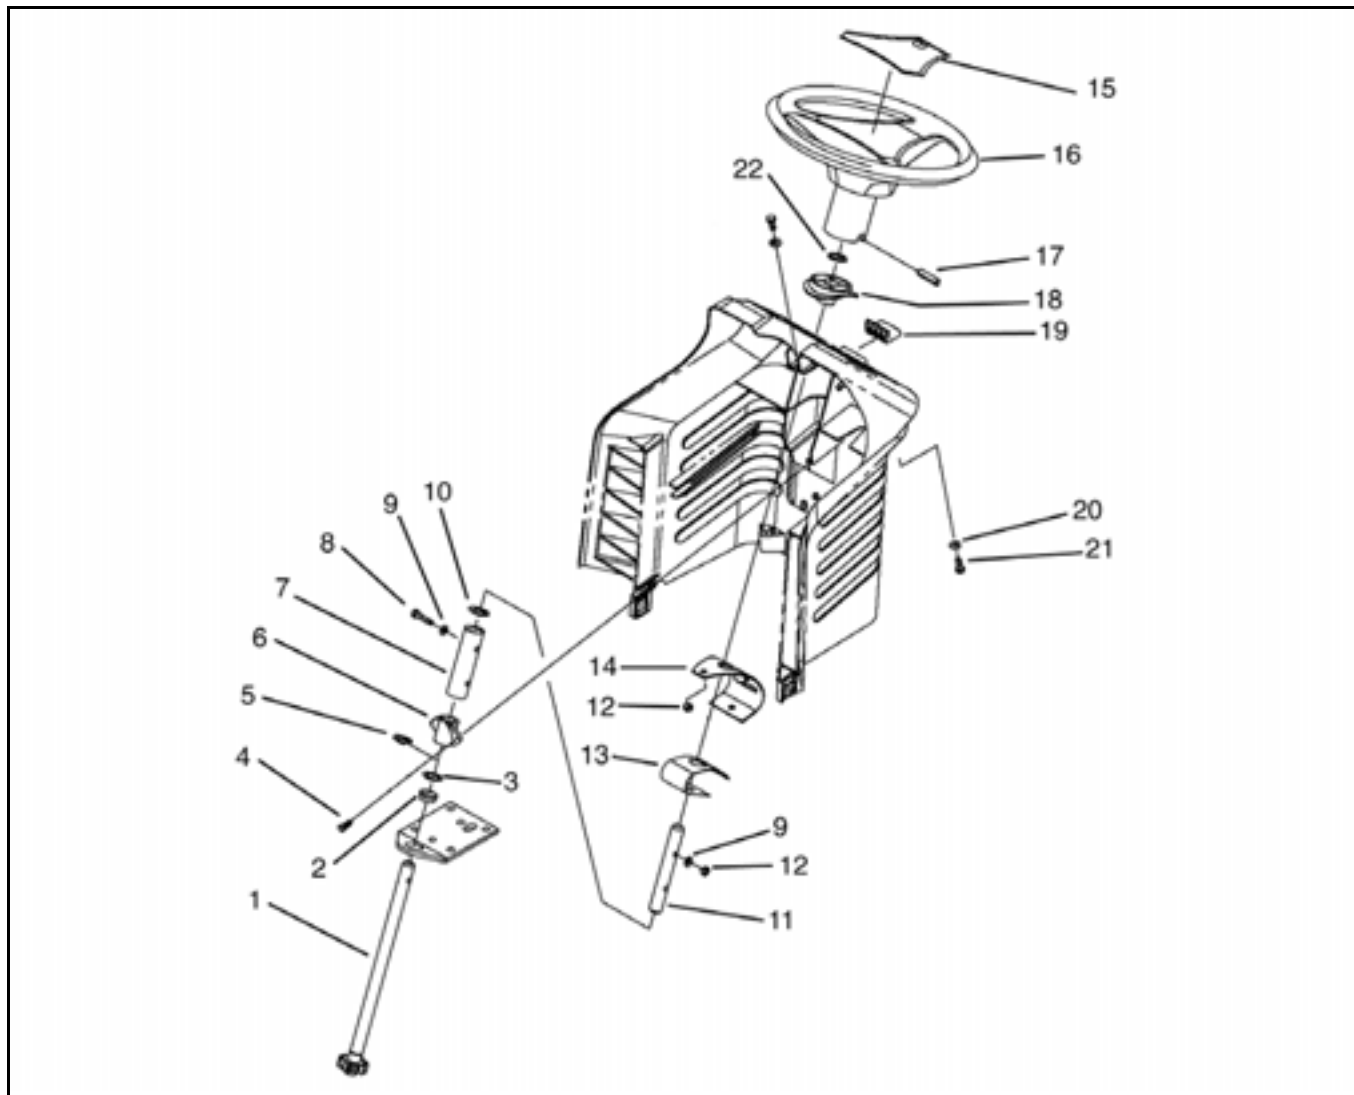

Figure 157
4. Remove the steering wheel by using a drift punch and remove the roll pin (17) in Figure 157.
5. Remove the E-Ring (5) in Figure 157.
6. Remove the 2 screws holding the stationary bushing (6) in Figure 157.
7. Remove the retaining ring (22) Figure 157, located at the top of the shaft.
8. To remove the steering shaft from the unit, the 2 screws (8), need to be removed and the upper steering shaft (11), separated from the short steering shaft (1) in Figure 157.
9. Steering short shaft (1) in Figure 157 should slide out from bottom of frame.